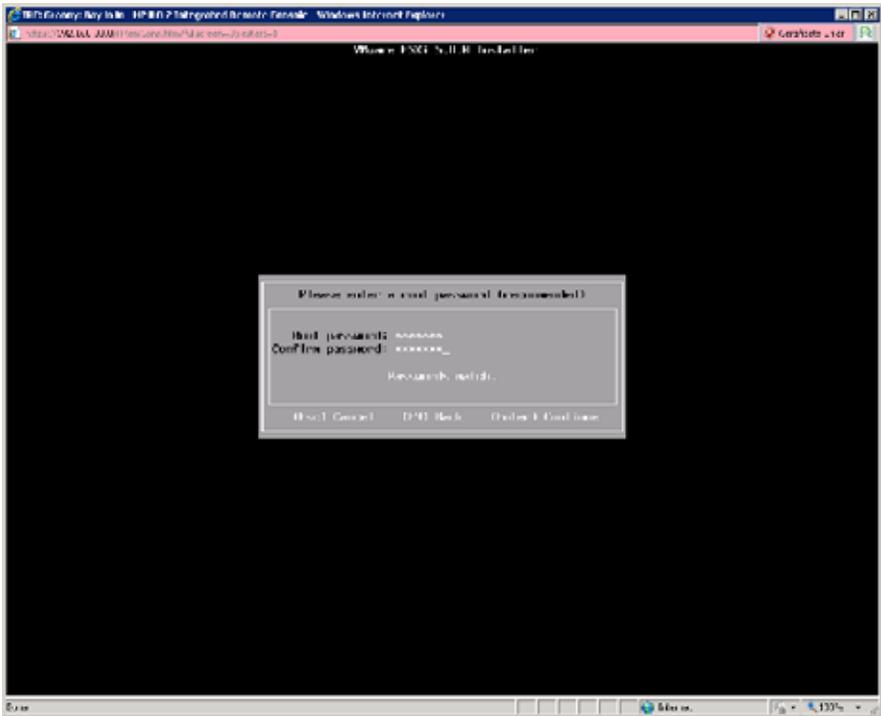

Figure 9 Log In to ESXi 5.0 Server
Step 9 When prompted, log in to the ESXi 5.0 server. You will need to log in to the server to complete the installation. Figure 9 on page 39 shows the log in prompt.